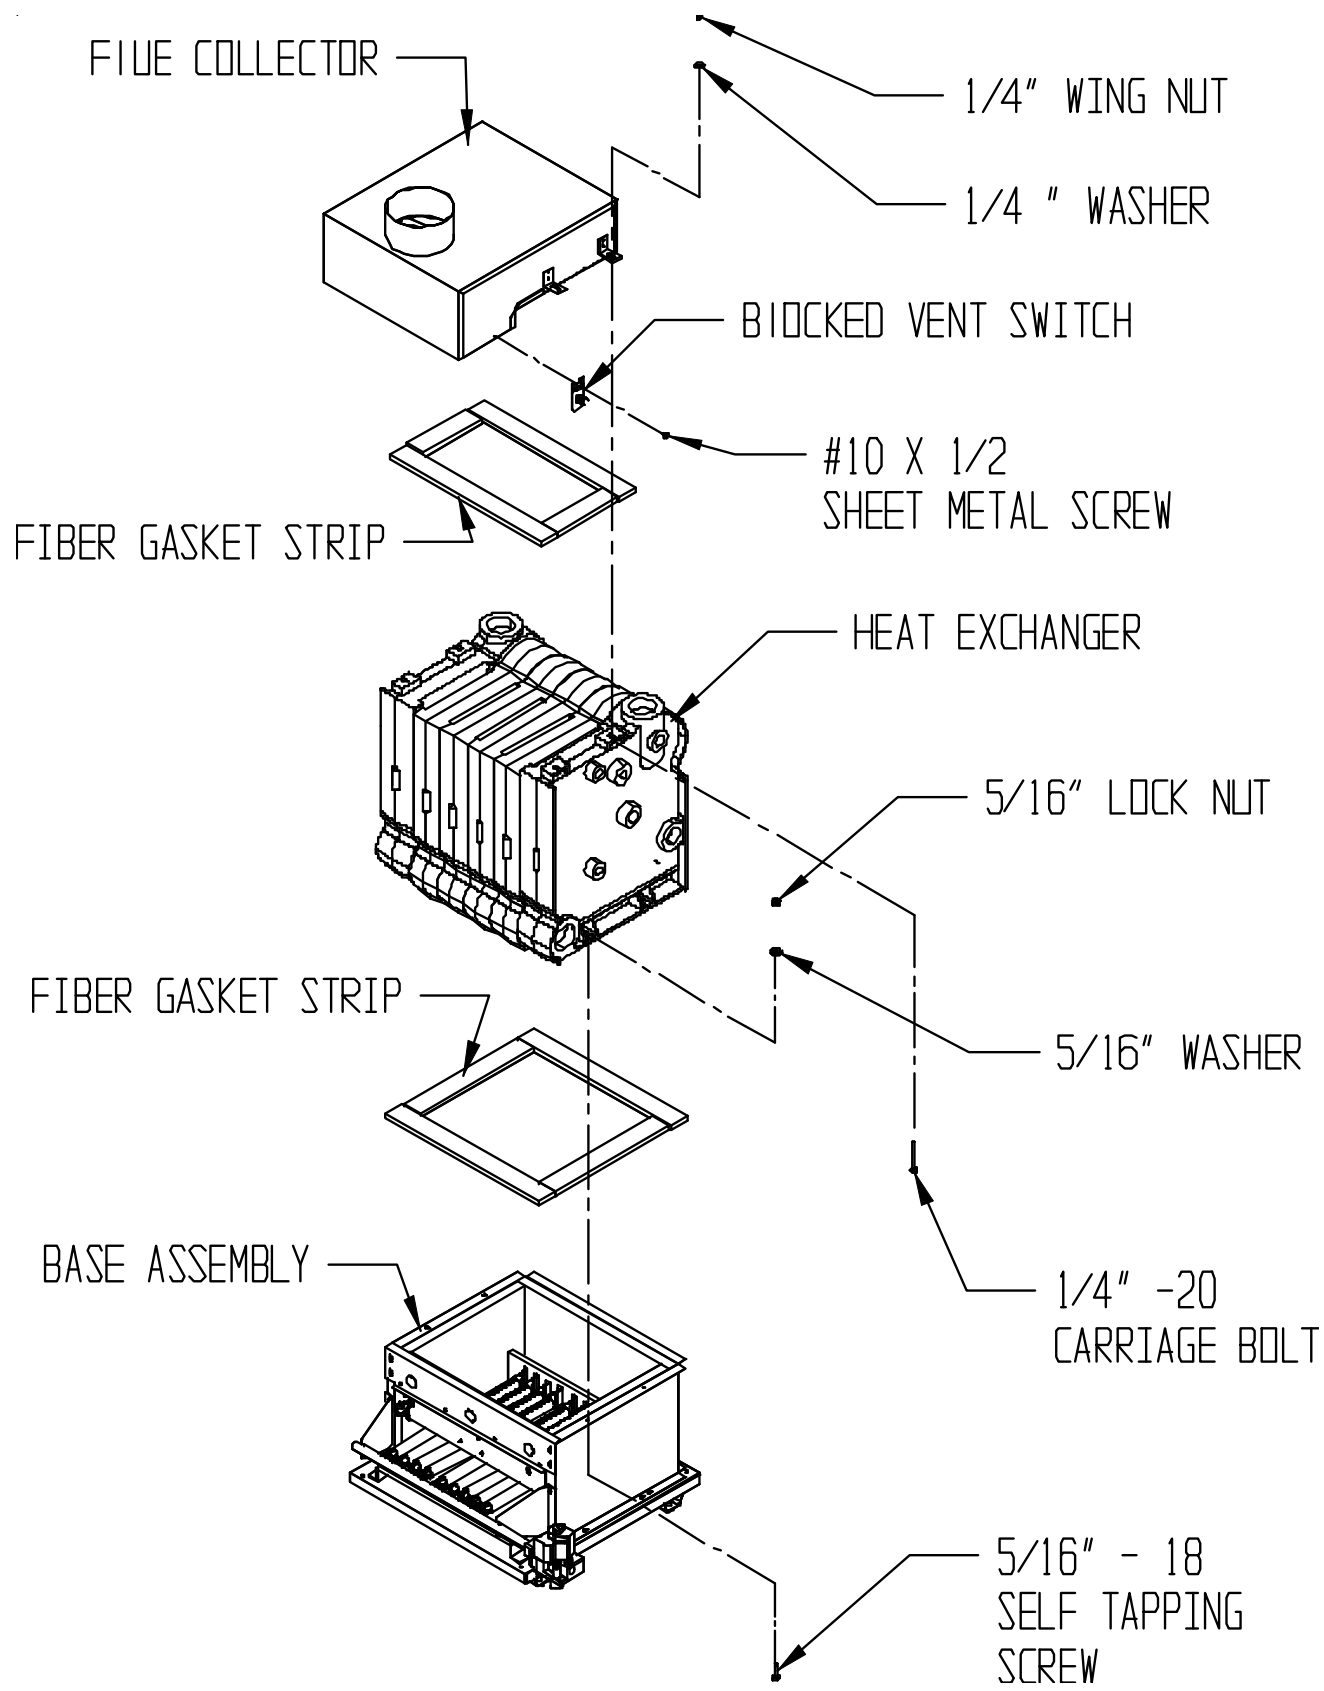

FIGURE A1: BASE, HEAT EXCHANGER, FLUE COLLECTOR ASSEMBLY
- 3) Install the fiber gasket strip, which was shipped in the "Base Box" (Figure A1).
- 1) Position the heat exchanger above the base with the return connection located toward the front of the boiler and the lugs, located on each end of the boiler, centered over the studs, which are on each end of the base (Figure A1). Lower the heat exchanger over the studs, taking care not to disturb the studs which may push out if the heat exchanger comes in contact with them. Also, take care not to disturb the ceramic fiber gasket.
- 5) Fiber gasket strips are used to seal the flue collector to the heat exchanger (this is the same material used between the heat exchanger and base). Install this gasketing on the top of the heat exchanger (Figure A1). A few dabs of silicone may be used to keep this gasketing from shifting when the flue collector is installed.
- 6) Install the flue collector as shown in Figure A1. Secure with the 1/4-20 carriage bolt, nuts, and washers provided.
- 8) Install the blocked vent switch using the #8 sheet metal screw provided as shown in Figure A1.